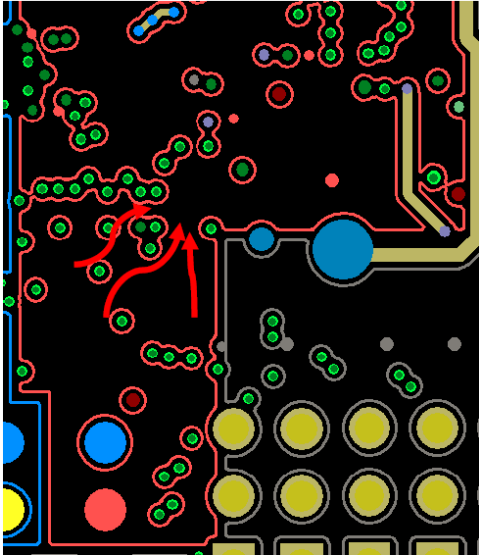

Figure 3-2 Example: via holes blocking the current path on the power plan
- If power planes are used, avoid via holes as they will break the integrity of the power plane. Figure 3-2 shows how via holes can block the current path on the power plane.